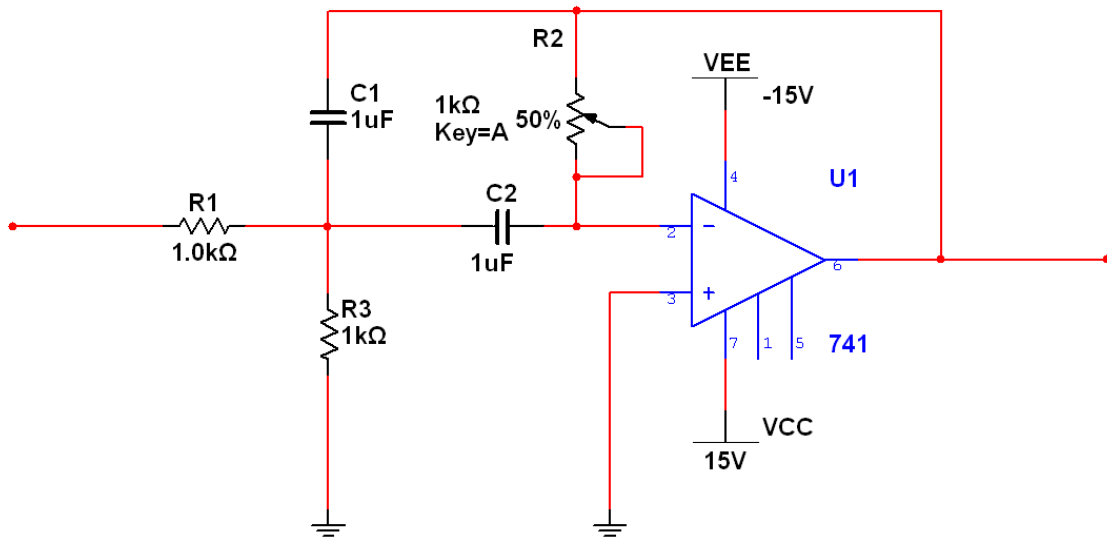

Figure E1-6. Completed Bandpass Schematic
3. Complete the remainder of the wiring by clicking source and destination terminals. The resulting circuit should match Figure E1-6.